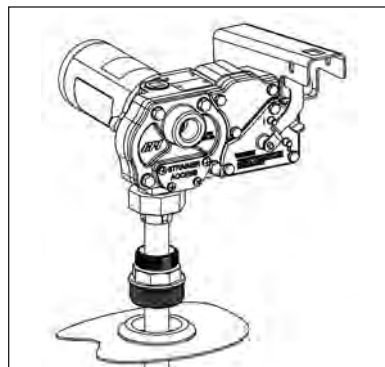

Figure 1
- Insert pump and suction pipe into the tank opening. (Figure 1)